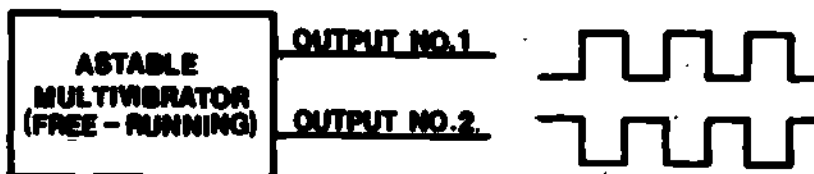

Figure 1
1. The astable multivibrator is a type of oscillator. A square-wave oscillator. Once it is energized, it will develop a continuous square wave at either of its two outputs (Figure 1).